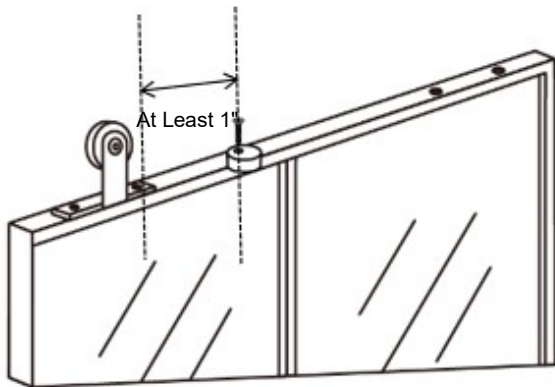

Figure 15
- The hole for the anti-jump blocks should be offset from the center of the door so the block can be rotated out of the way to be able to hang the door on the track (Figure 15)